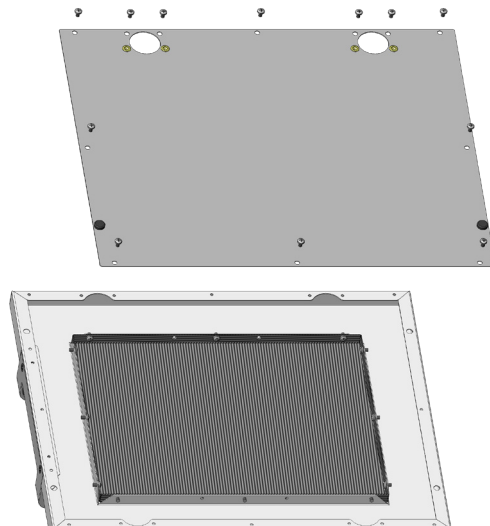

FIG. 2
2. Lay the door on a flat surface with a blanket or towel to protect the door finish. Remove the door liner by removing all screws as shown in Fig. 2.